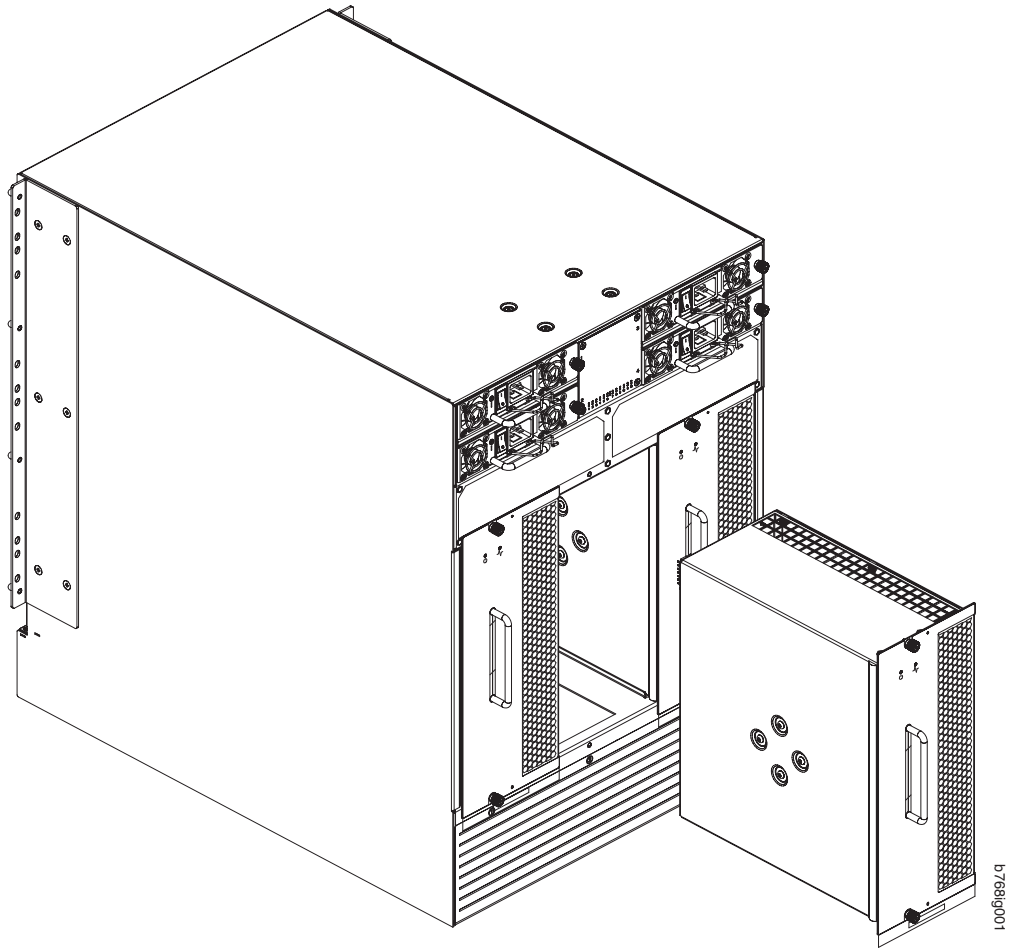

Figure 28. Blower assembly LEDs and other parts
2. Use the screwdriver to loosen the captive screws at the top and bottom of blower assembly (see Figure 28 on page 72).